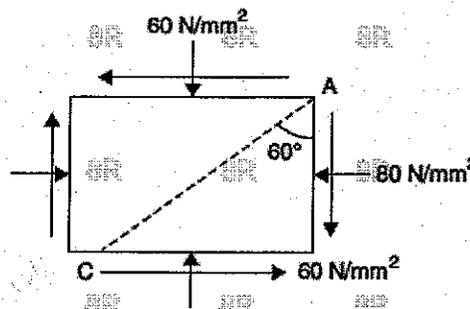

Figure 3
8. The state of stress in a two dimensionally stressed material is as shown in Figure 3. Determine the principal stresses, principal planes and the maximum shear stress. Determine normal and tangential stresses on plane AC. Draw the Mohr's Circle and represent the points on it. [10]